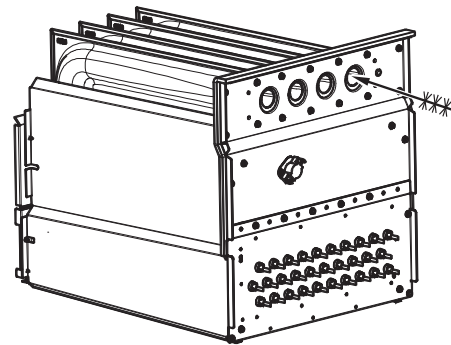

Fig. 71 – Cleaning Heat Exchanger Cell
7. Clean heat exchanger openings with a vacuum and a soft brush. See Fig. 71.